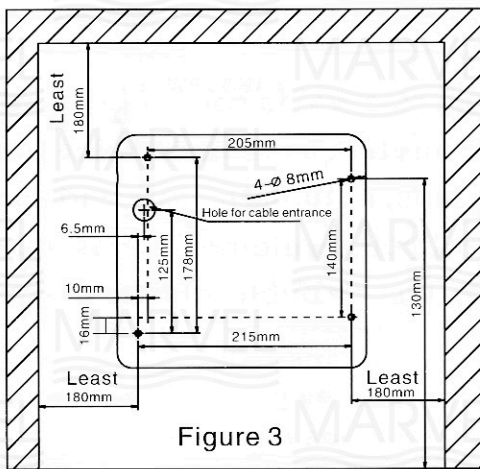

Figure 3
2. Drill 4 holes of 8mm diameter, 35mm deep; (Figure3)